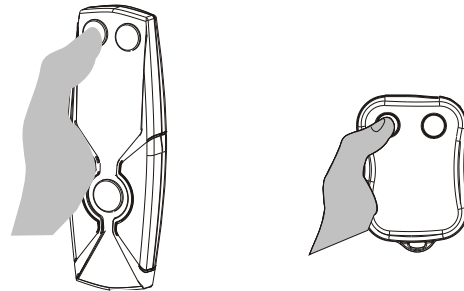

Figure 3-5
4. Use the wired hand control or optional wireless key-fob controller, to raise and retract the platform into the stowed/travel position. **See Figure 3-5.**